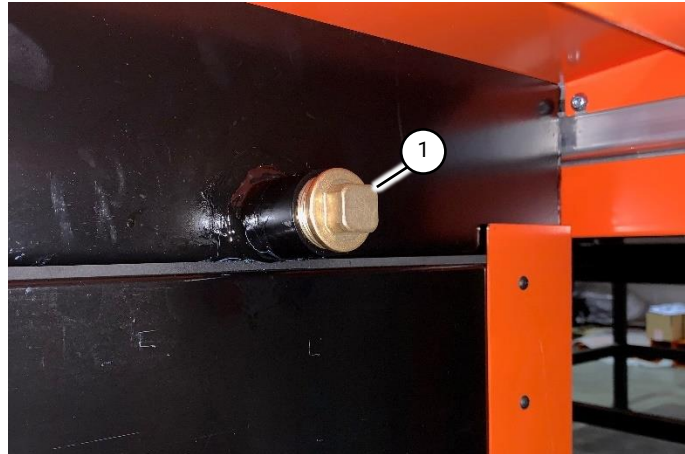

Fig 22 Water tray drain plug
1. Before filling the water tray, make sure that the drain plug at the rear of the table is closed (Fig 22 (1)).